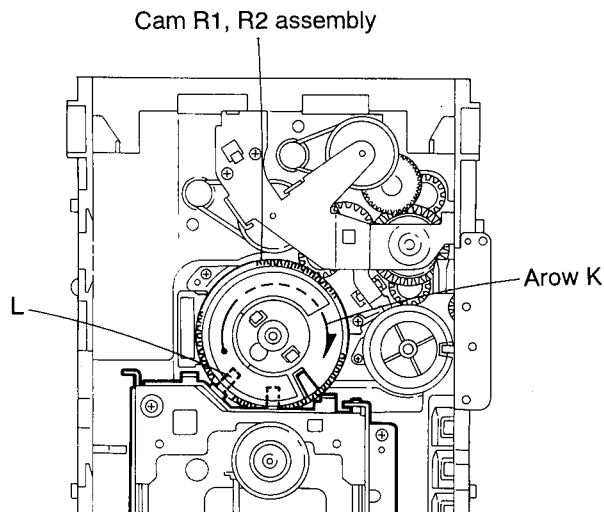

Fig. 2-20
## ■ Removing the CD mechanism (See Figs. 2-20 and 2-21)
1. For dismantling only the CD mechanism without removing the CD mechanism assembly, align the shaft (L) of the CD mechanism assembly to the position shown in Fig. 2-20 while turning the cam R1 and R2 assembly in the arrow direction (K).